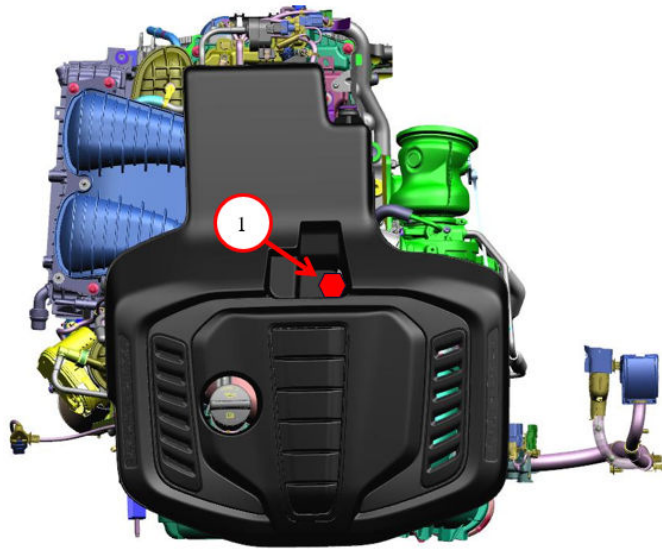

Fig. 2
2. Remove the bolted engine cover fastener Fig. 2.
24. Install and tighten the bolted engine cover fastener to 5.5 N·m (49 In. Lbs.) Fig. 2.